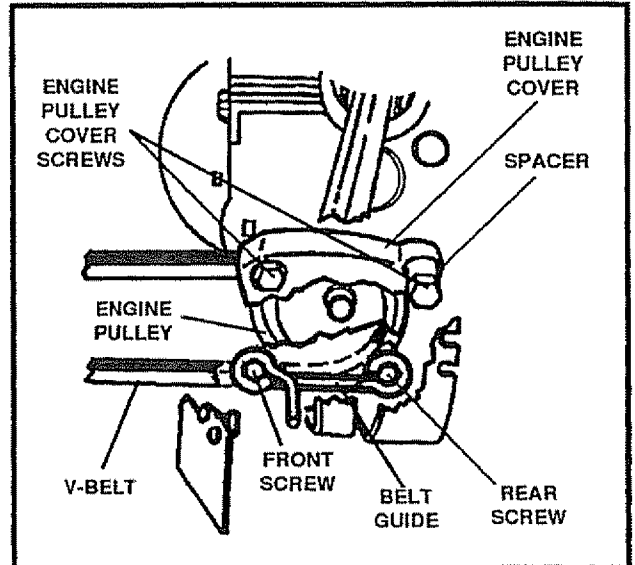

FIG. 10
- Remove the two top screws from the engine pulley cover (See Fig 10) and remove the cover.
- Remove the front screw securing the belt guide (See Fig 10) to the engine. Then loosen the rear screw and swing the belt guide away from the belt.